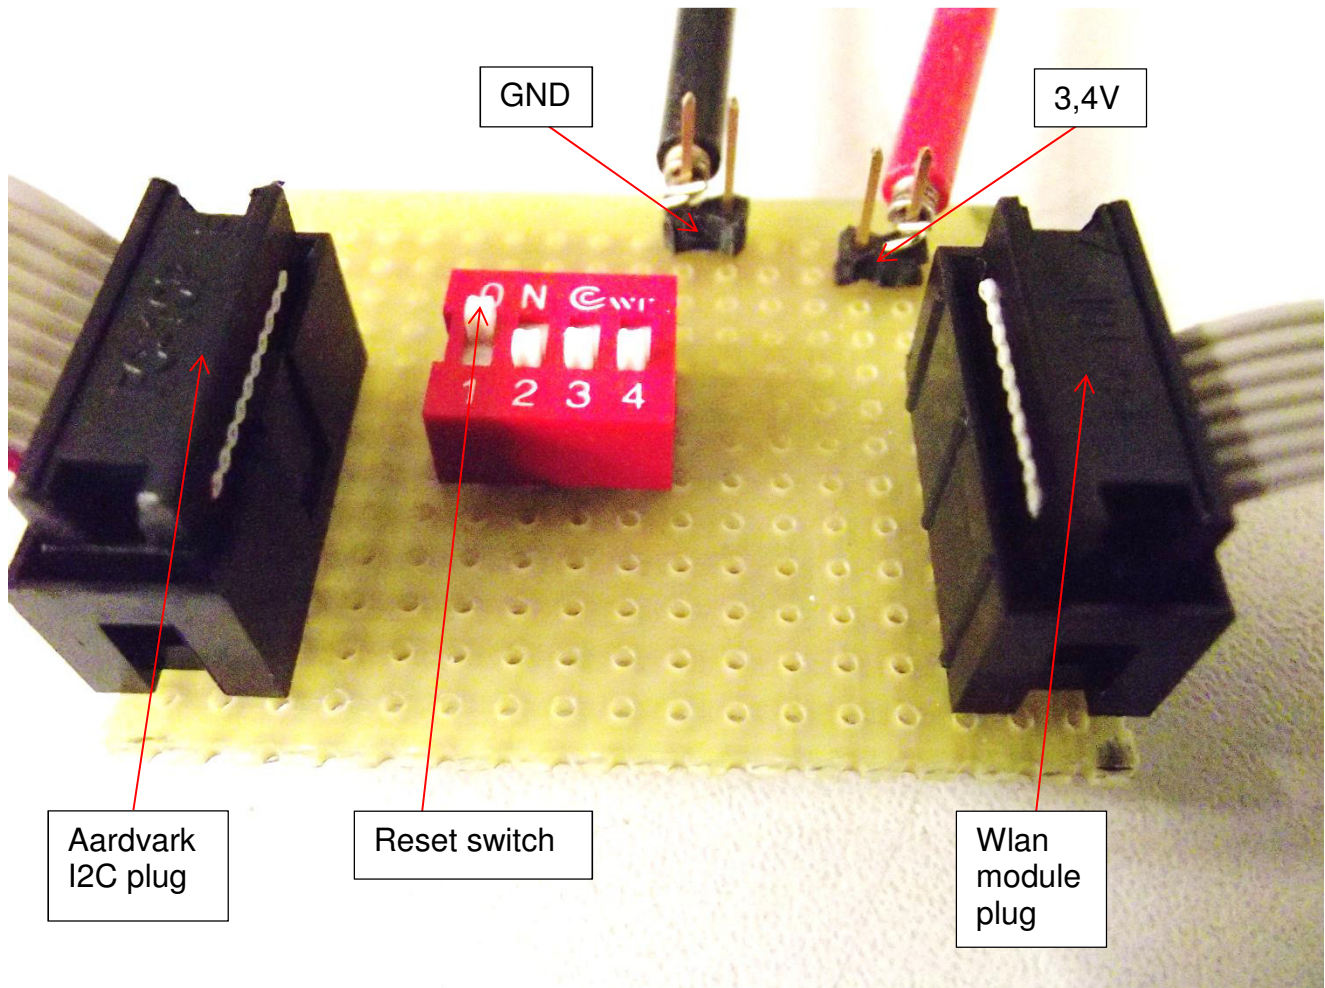

Figure 10: Adapter board
Use the adapter board to connect the Wlan Module to the I2C adapter shown in Figure 10:
- Turn the reset switch in position "ON" (Reset inactiv) (see Figure 10)
If an error occurs the reset switch from Figure 10 must be switched "OFF" (Reset activ) and "ON" again. Press **RUN** again and the chip ID should appear.